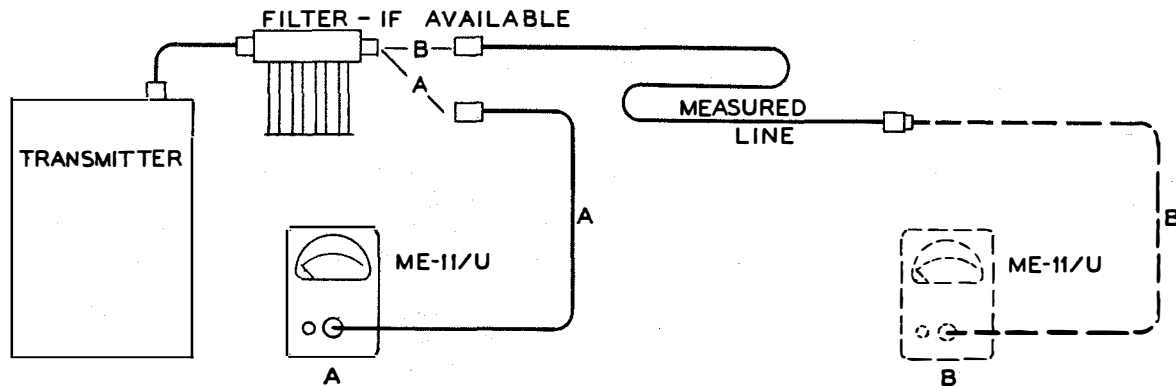
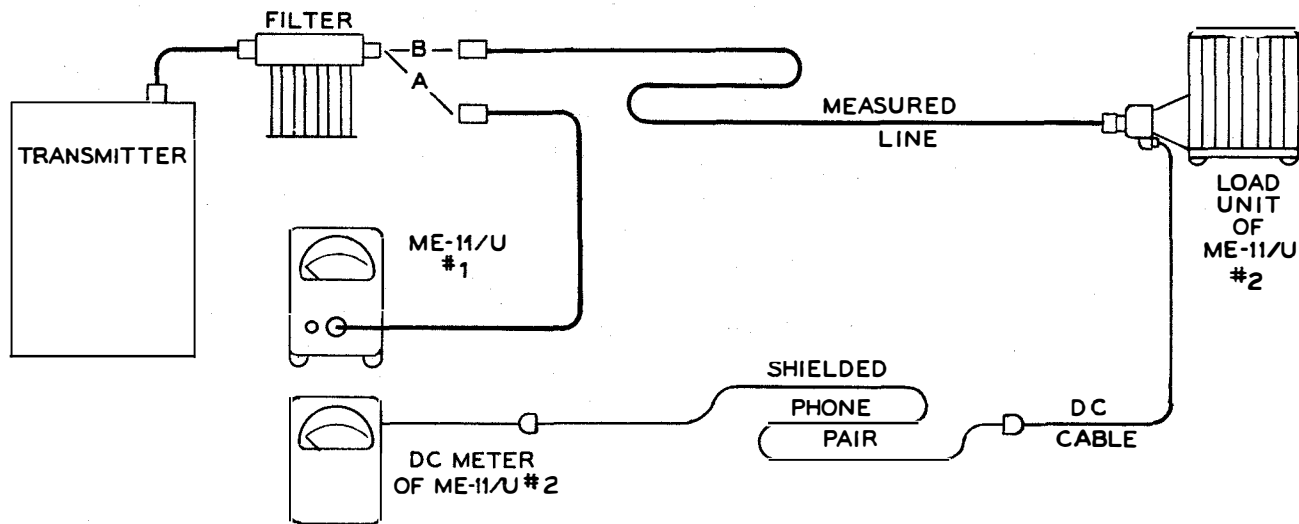

Fig. 4-2. Line Loss Measurement — Block Diagram
Fig. 4-3. Line Loss Measurement — Remote Use of D-C Meter — Block Diagram
b. TEST PROCEDURE (See Fig. 4-2 and 4-3)
(1) Connect the wattmeter to the transmitter ("A" connection of Fig. 4-2 and 4-3). Read output power and tune final stages of transmitter for maximum power output " P_1 ".
(2) Connect line to be measured to transmitter and connect wattmeter to far end of line ("B" connection of
Fig. 4-2 and 4-3). Read power " P_2 " if the transmitter meters do not indicate a significant change in loading. Good lines terminated by the wattmeter should show little change in transmitter loading from that with wattmeter alone. Where significant changes occur, the voltage standing wave ratio of the line is high and attenuation measurements by this method should be disregarded. Cause of high VSWR should be investigated.
(1) When both ends of measured line terminate in the transmitter room, one wattmeter measurements are convenient (See Fig. 4-2).
(2) A dual set-up with wattmeters and personnel at each end of the line may be used where the far end of the line to be measured is remote, especially when a number of frequencies or parallel lines are to be checked. With readings to be taken at both ends, a telephone connection serving as an order wire will save time.
(3) Fig. 4-3 shows one way of carrying out line measurements from the transmitter room only, when far end of line is remote.
(4) Another way, when two or more rf lines run parallel between measurement points, is to join two lines with a patch cord at the remote end, then measure the loop back to the transmitter room. For identical lines, the loss of one is half the loop loss, or the loss of one good line can be otherwise determined and subtracted from the loop loss.